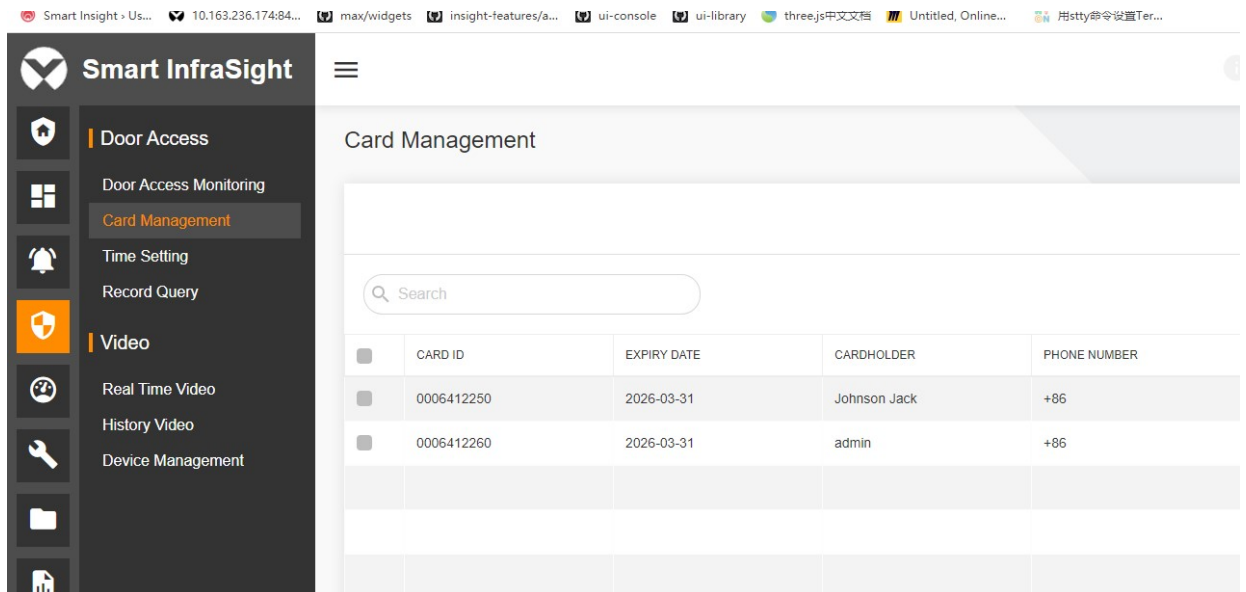

Figure 13-32 List of cards
1. Choose **Door Access > Card Management**. The **Card Management** page is displayed. The card data is displayed in pages. Each page displays 10 cards. The card list includes **CARD ID**, **EXPIRY DATE**, **CARDHOLDER**, **PHONE NUMBER**, and **DEPARTMENT**, as shown in Figure 13-32.